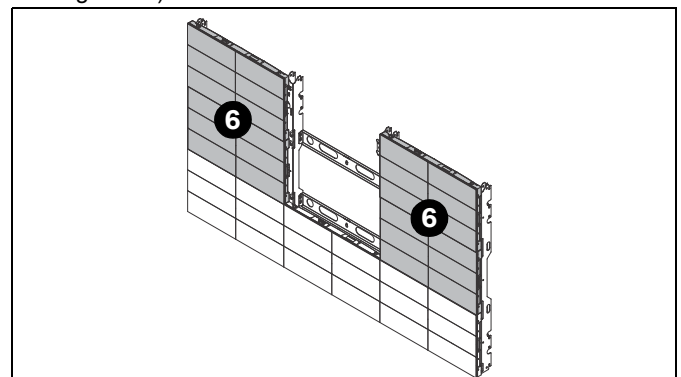

Figure 24
6. After the first row is installed, install a column on the far sides to ensure the panels are perfectly perpendicular. (See Figure 24)